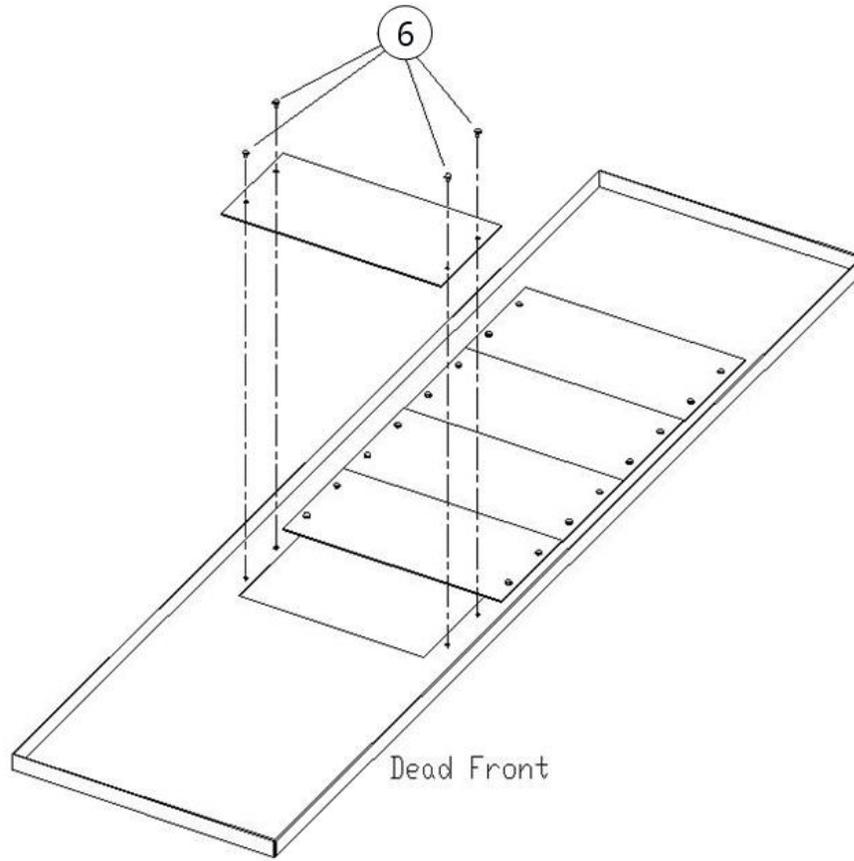

Figure 2. Removing the shield inserts from the shield for THQB breaker installation in A-Series® II Panelboards.
6. Remove the eight screws [6] of existing two filler plates from dead front where THQB breaker needs to be installed, as illustrated in Figure 2.